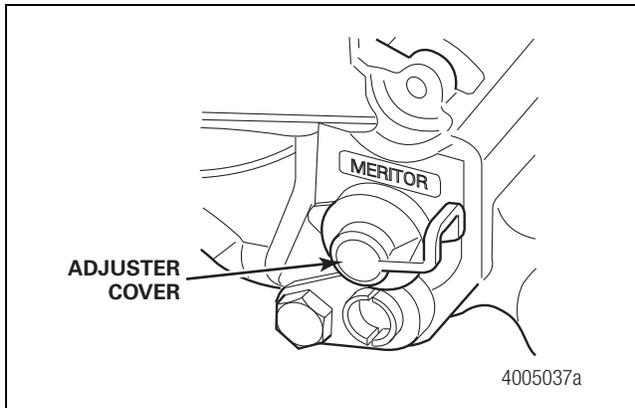

Figure 15
- A. Remove the adjuster cover. Figure 15.